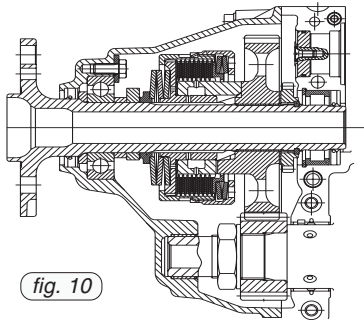

fig. 10
See fig. 10.
- ◆ **NOTE:** Fig. 10 shows a propeller gearbox of configuration 2 with the integrated overload clutch.